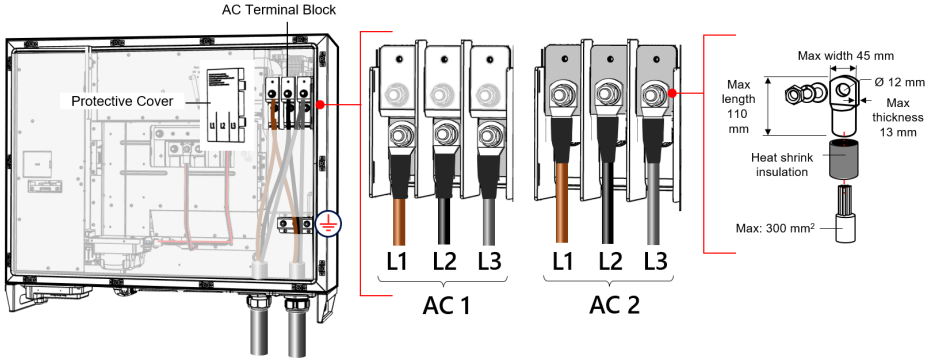

Figure 27: Connecting AC wires to the Inverter
10. Connect the L1, L2, L3 wires to the terminal block according to the labels on the terminals. Tighten the nuts to 34.98 N*m (see *Figure 27*).